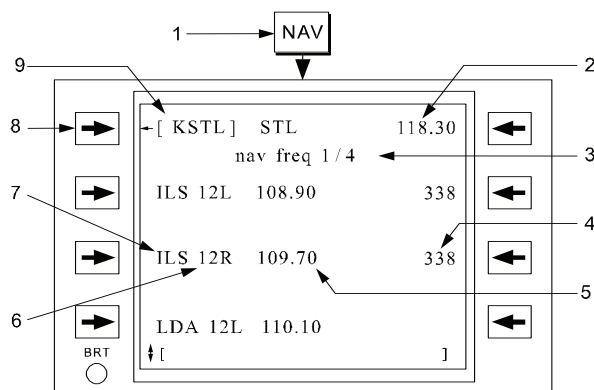

Figure 3B-117. Navigation Radio Information Page
(1) *Navigation Radio Information Overview.* The FMS-800 provides navigation radio information upon valid entry of an airport identifier. The crew may access the Navigation Information Radio page via the NAV function key on the CDU. Refer to Figure 3B-117 and Table 3B-80.